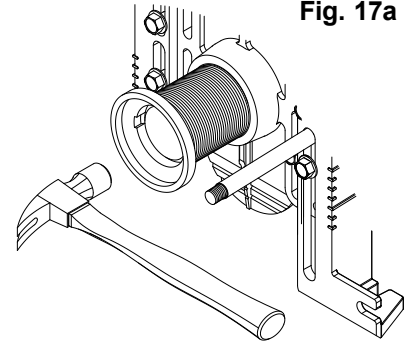

Fig. 17b
Knock out the test cap with a hammer and deburr sharp edges. (-CS coupling only). See Fig. 17b.
- b. EZ-Set™ Coupling (using knock-out feature) – Remove coupling protector. Ensure coupling is flush with the finished wall. Knock out the test cap with a hammer and deburr sharp edges. See Fig. 17b